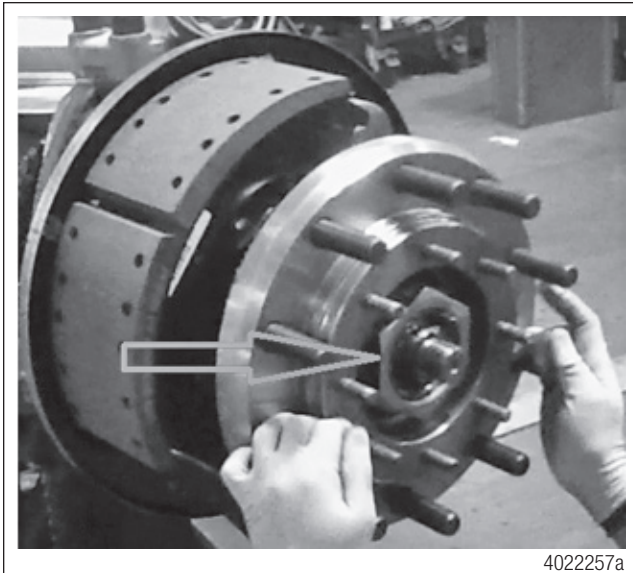

Figure 29
7. Install the lock nut over the washer and tighten to 400 lb-ft (542 Nm). Figure 29.